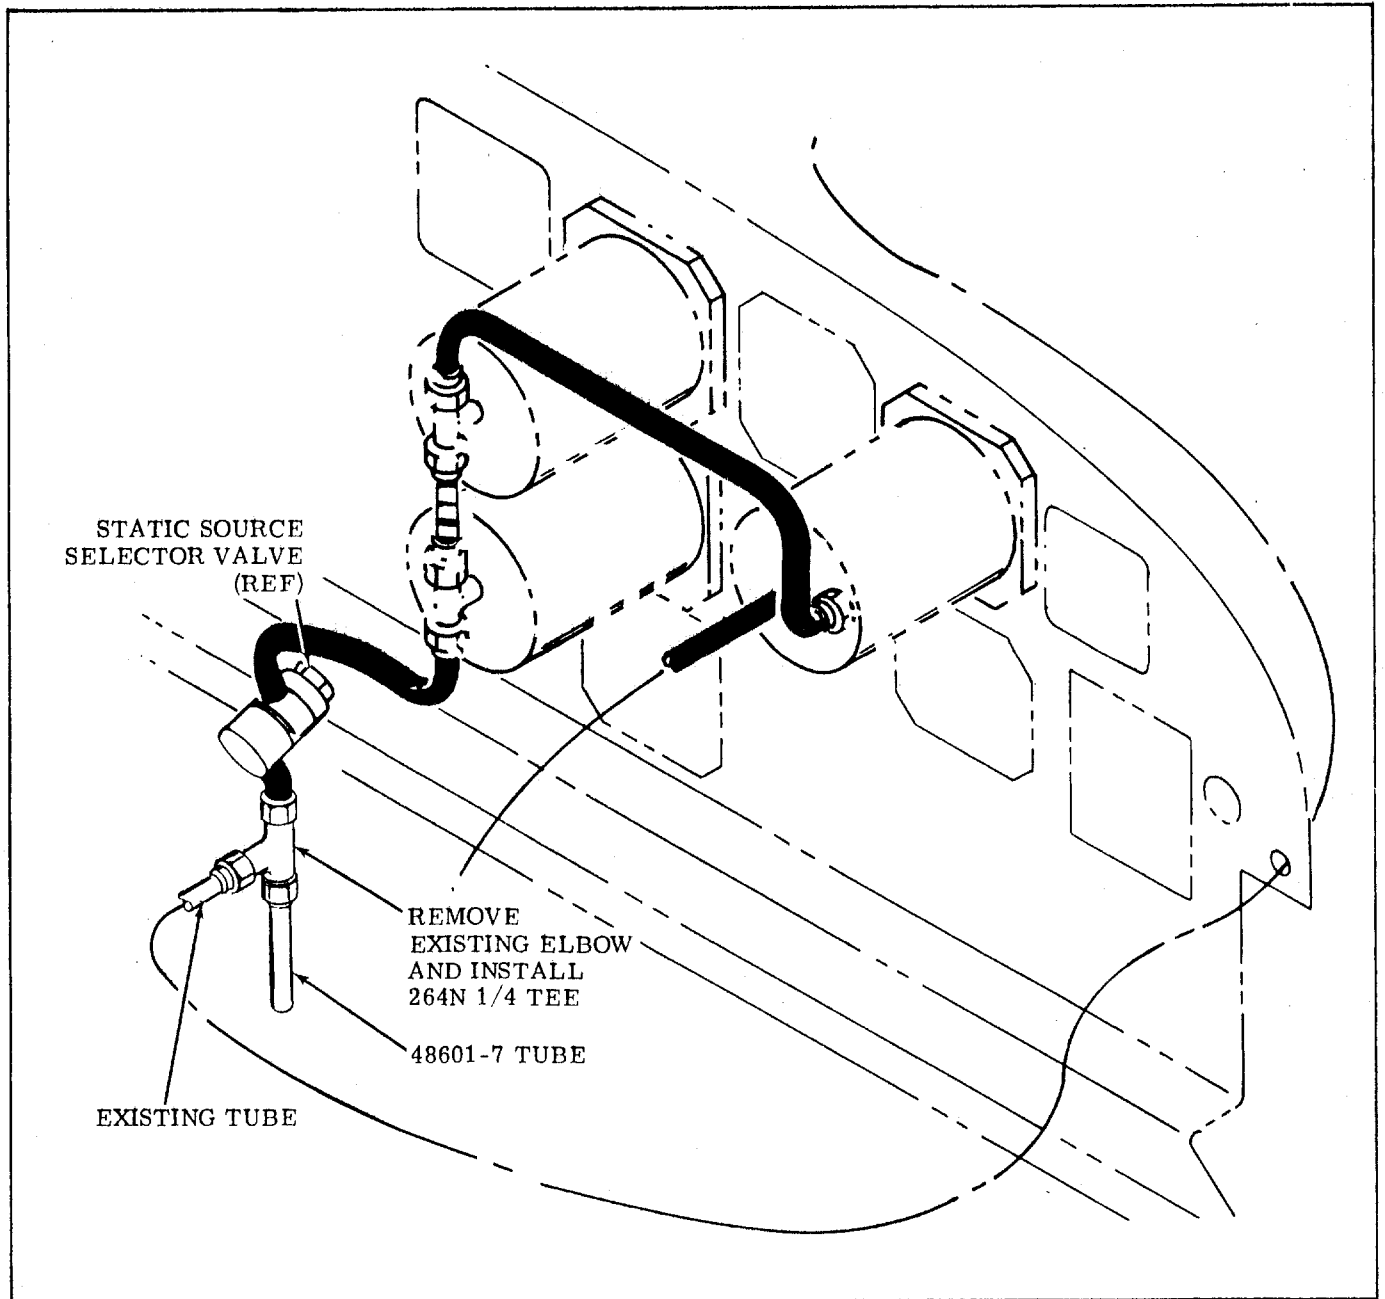

Figure 1.
4. Remove and discard existing elbow from static source selector valve (see Figure 1.).
5. Install 264N 1/4 tee and 48601-7 tube on static source selector valve and reconnect existing tube (see Figure 1.).